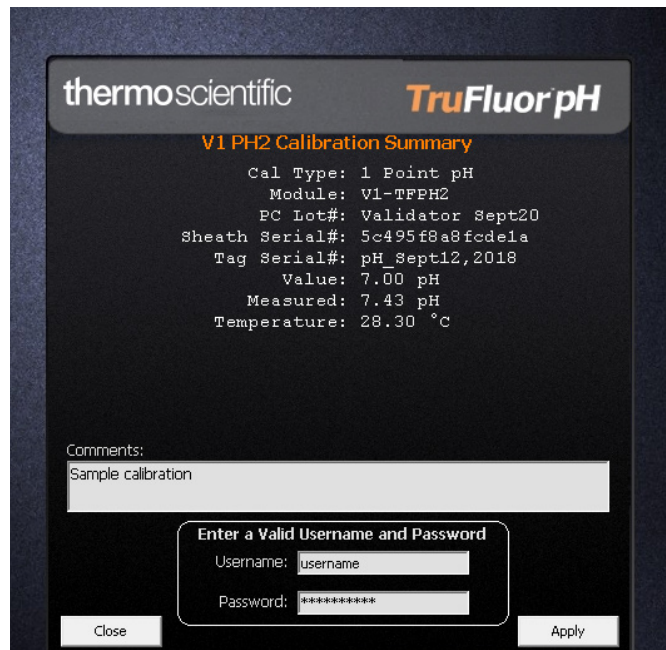

Figure 2.19. Calibration summary page.
9. At the “Calibration Summary” page, enter any notes in the Comment field, if desired. Then, enter a valid username and password, and click **Apply** (Figure 2.19).